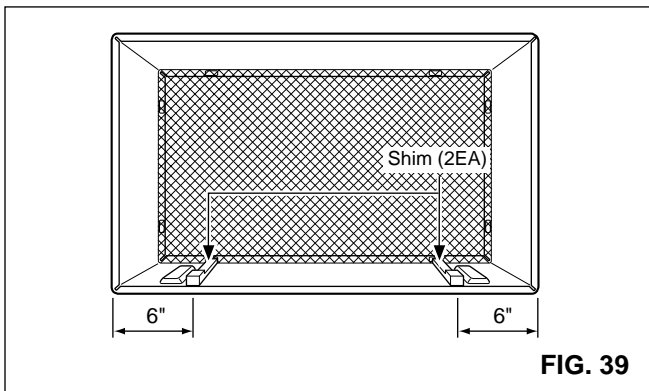

FIG. 39
- 7** Remove the backing from the 13" shim strips and attach them as shown below in Fig. 39. The higher portion of shim is to be placed in front of the rib on the base of wall sleeve.